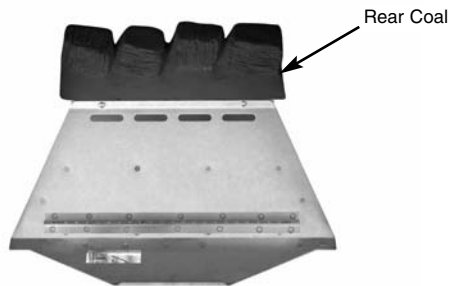

Fig. 50
1. Place the rear coal on the rear coal retainer ledge in a central position (Fig. 50).